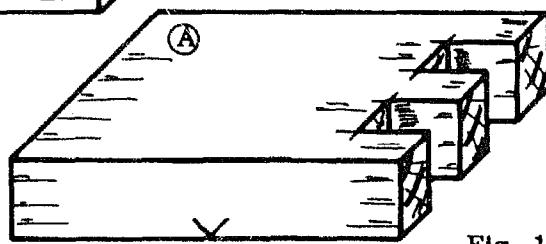

Fig. 11
- Rip the sides of the tenon, sawing on the waste side of the line (Fig. 8). Cut in stages as shown in Fig. 11, a, b, c, & d).
- Chop out the waste from the slots, chiselling from both sides as explained in the previous step (Fig. 11).